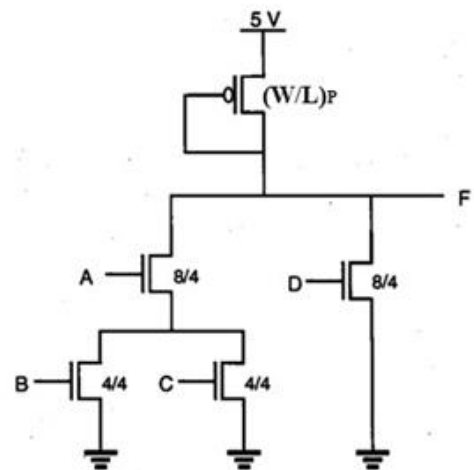

Fig. 5
Q5. (A) Consider the logic circuit shown in **Fig. 5**, with threshold voltage V_{TO} (NMOS/ driver) = 1 V, V_{TO} (PMOS/load) = - 3 V, and body effect coefficient (γ) = 0.